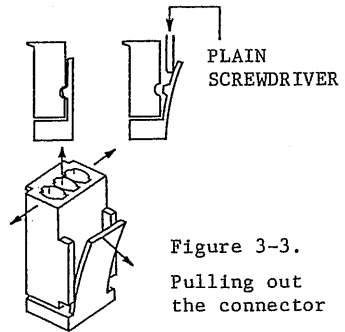

Figure 3-3. Pulling out the connector
- (1) Disconnect the input power cord from the input AC power line. Remove the cover referring to Section 4-1-3. Remove the clamping-screws of the PC board (A-650).
- (2) On PC board A-650, pull out connector D and insert it in connector position E. Do not forcefully pull out the connector as it is locked. To pull out the connector, see Figure 3-3.
- (3) Insert connector H (supplied) in connector position D.
- (4) Fix the PC board and the cover.
- (5) Post on the transparent cover above terminals ⑥ - ⑦ the following seal mark (supplied):
- (6) Post at a clearly visible position on the front panel or cover the following seal: REMOTE ON-OFF
- o The output is turned off when terminals ⑥ and ⑦ are shorted; it is turned on when the terminals are made open.
- o If the instrument has been set for the standard connections of terminals (standard connections of internal connectors A, B and C, and switch S), perform the following procedure starting by Step (5).
- (1) Disconnect the input power cord. Remove the cover referring to Section 4-1-3. Remove the clamping-screws of the PCB (A-650).
- (2) Change the connections of connectors A, B and C on PC board A-650 for the mating symbols. (See Figures 3-3, 3-5 and 3-8.)